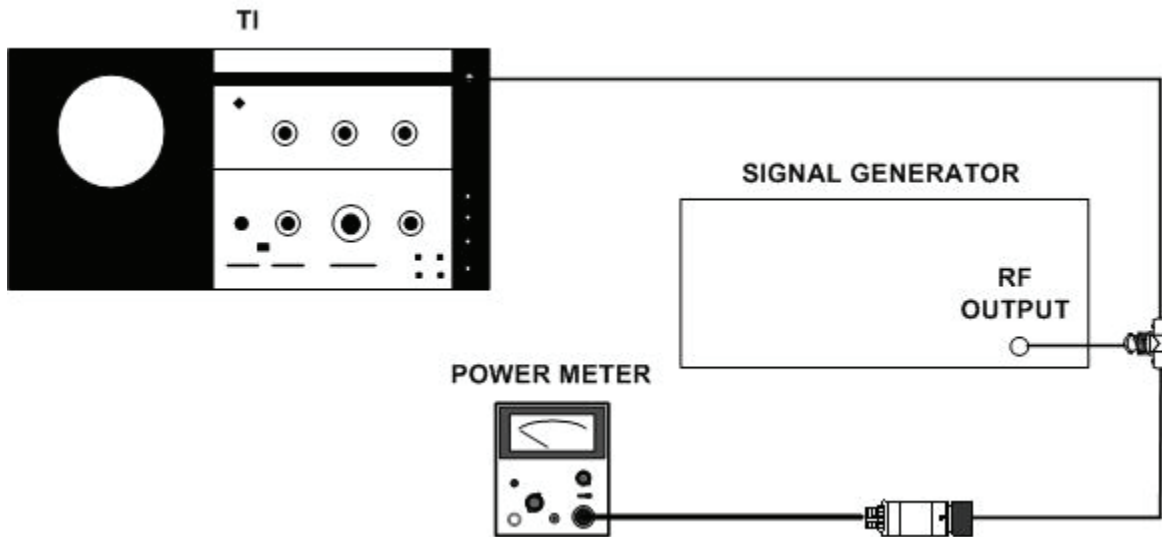

Figure 7. Frequency response (10 to 110 MHz) - equipment setup.
- (1) Connect equipment as shown in figure 7.
- (2) Position TI controls as listed in (a) through (f) below: